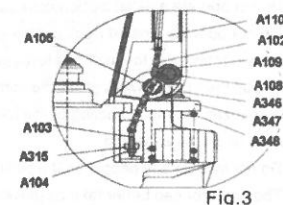

Fig.3
2.2 Let control handle(A117) to the 'LOWER' position, then pass the adjusting nut(A104), adjusting bolt(A103) and chain(A102) through the hole of axle(A105) with your hand (See fig. 3).